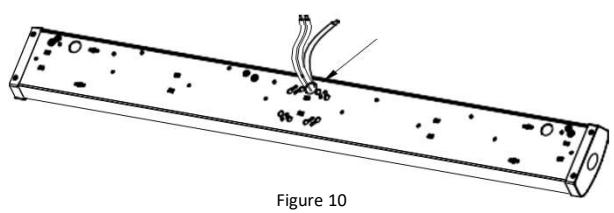

Figure 10
6. Punch through the center knockout and pull the black white and green wires through. **See Figure 10.**
Reportez-vous à la Figure 10.*